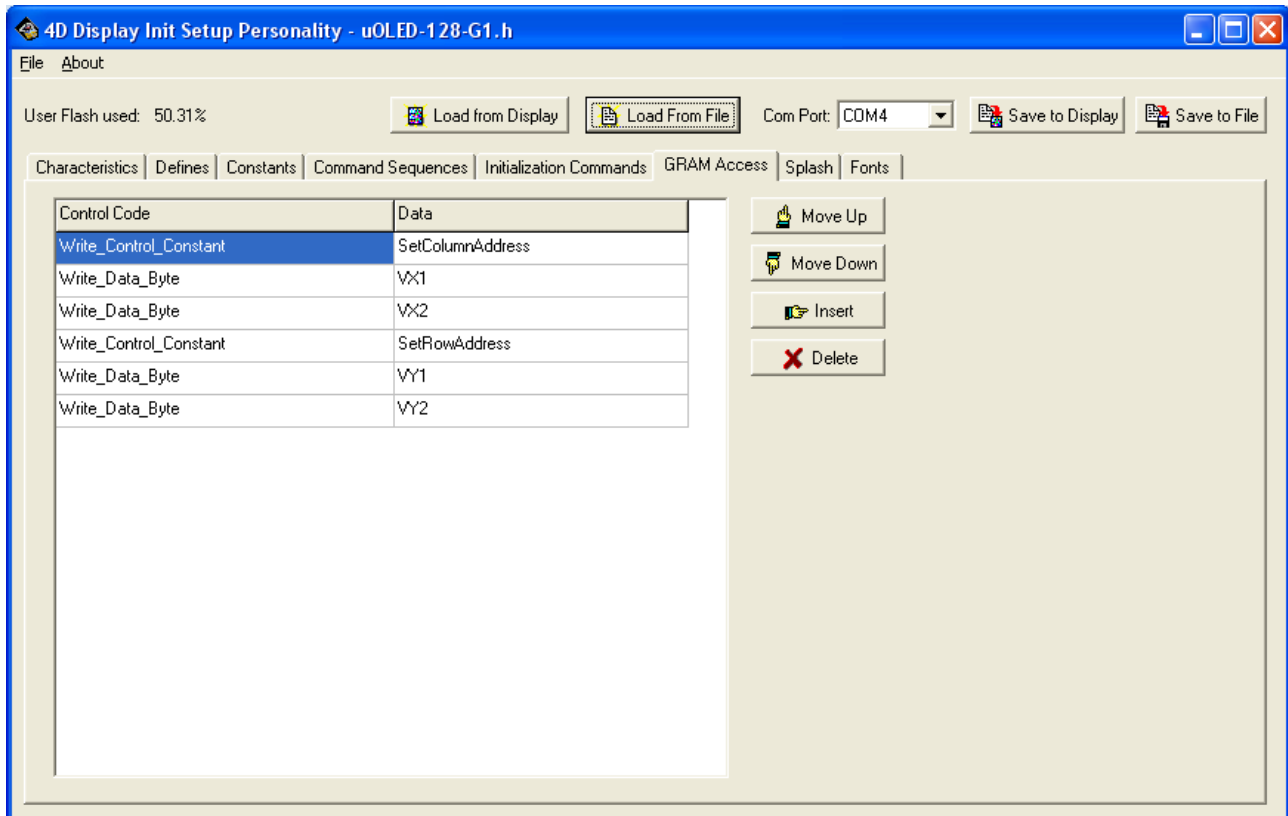

Figure 12: GRAM Access settings
- The character selected is internally represented by an ASCII displayed on the window, as shown in figure 12.